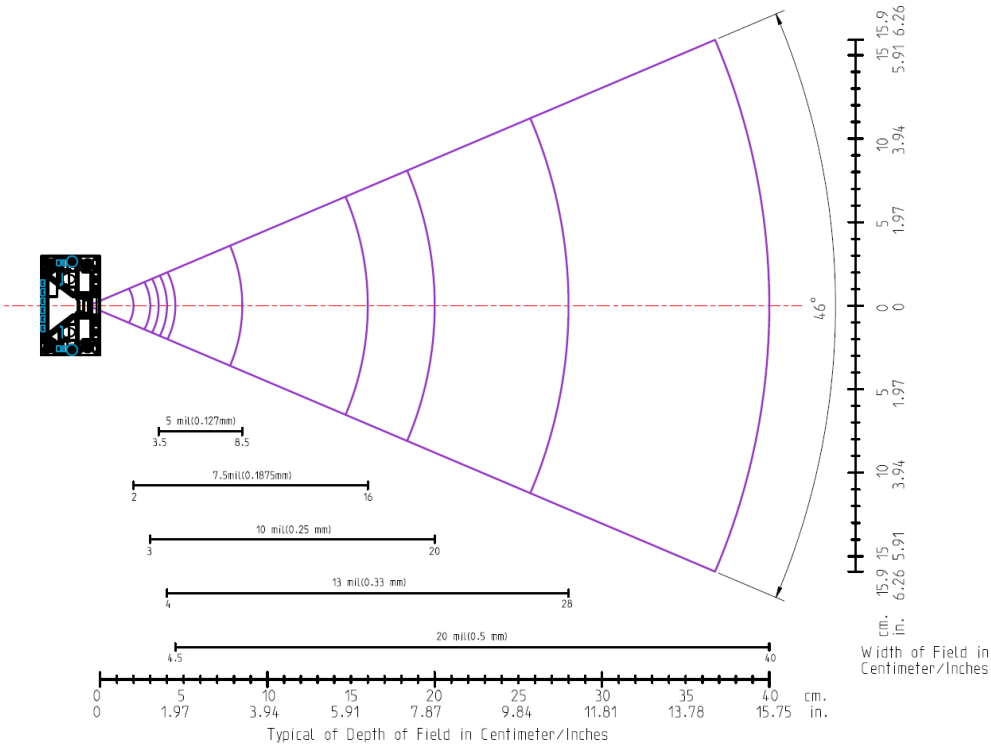

Figure 2: Scan Zone
- d. The barcode label must be placed within the effective depth of field (D.O.F.) since it is the effective reading distance for the barcode from the scanner. For the best placing position, please refer to the Decode Depth of Field drawing. (Figure 2)
For best placing position, please refer to the Decode Depth of Field drawing (Figure 2).